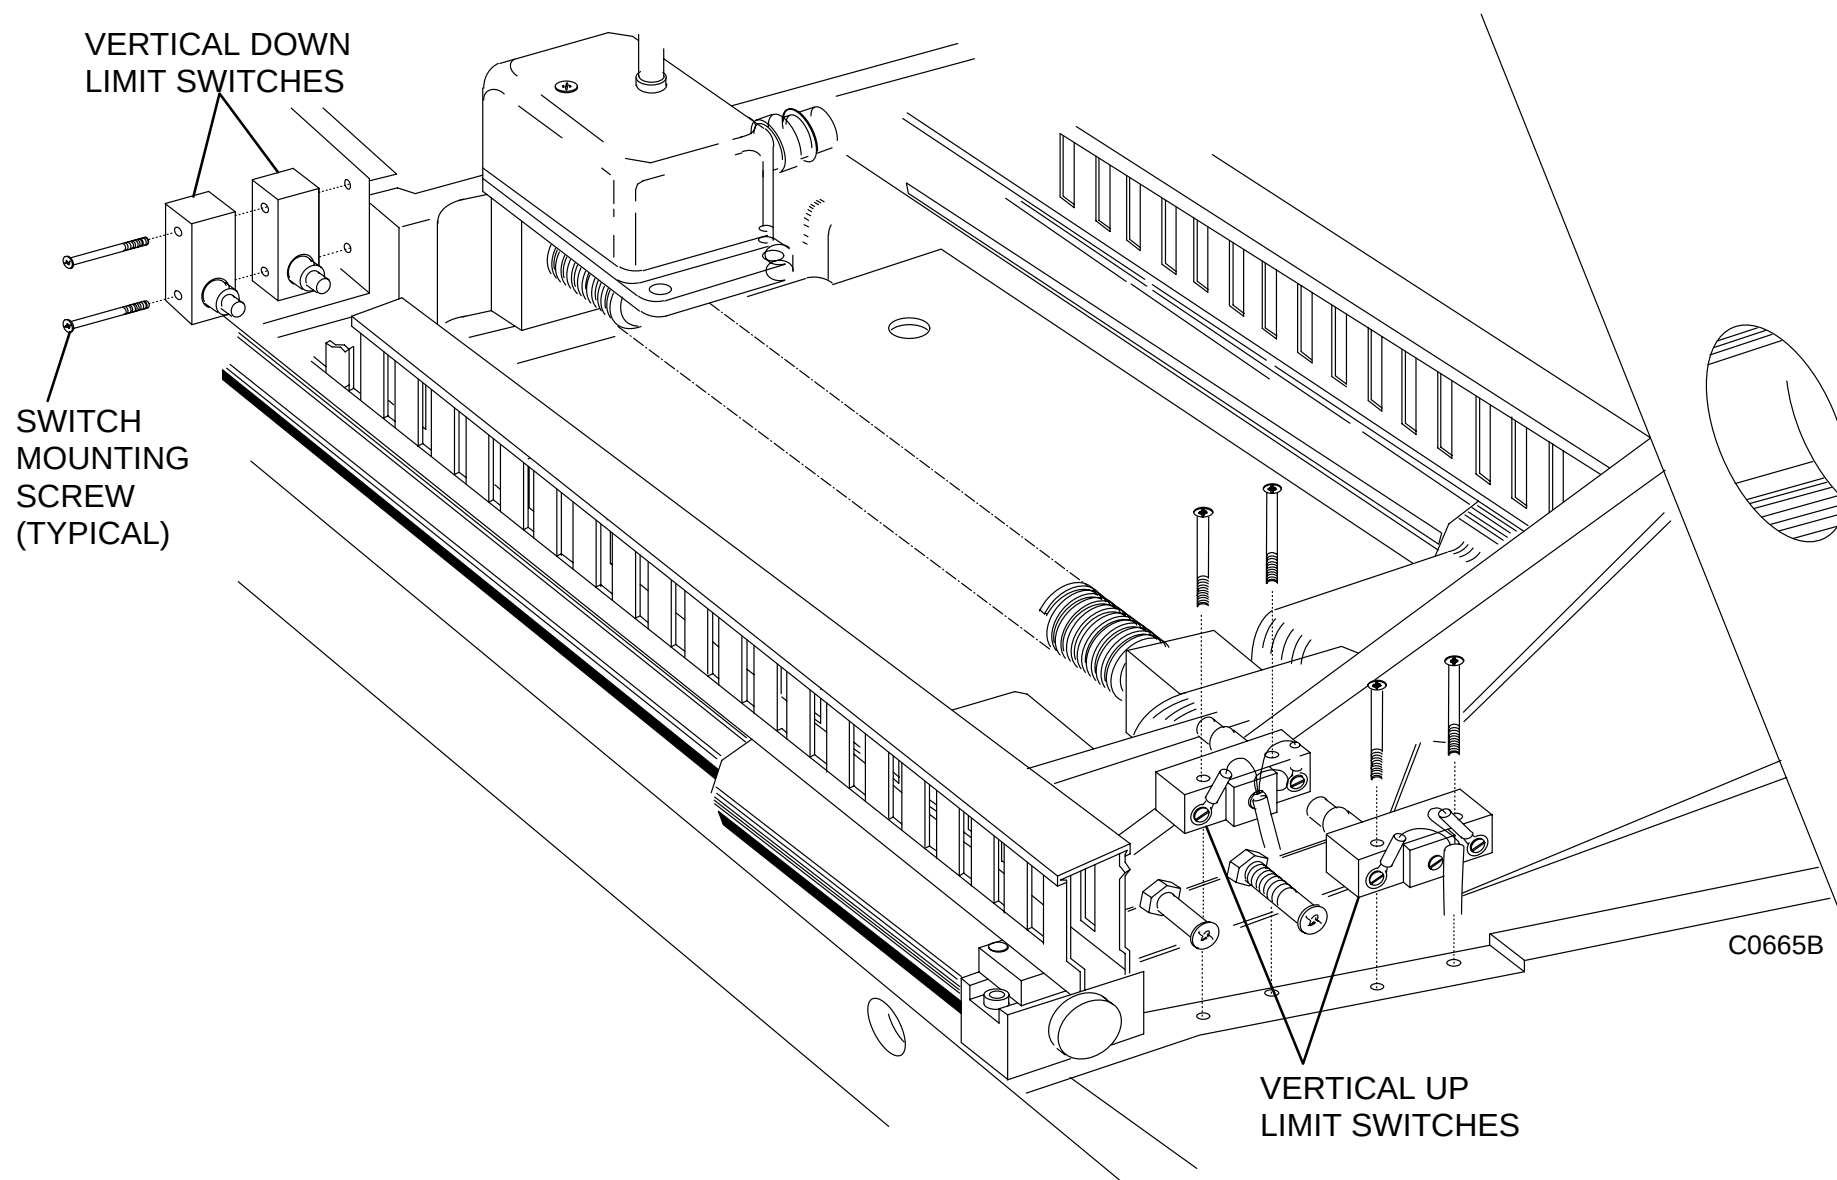

FIGURE 84 VERTICAL LIMIT SWITCHES
6. Loosen the lock nuts on the four vertical limit switch adjustment screws. Turn the soft limit switch adjusting screws fully into the frame. Turn the hard limit adjusting screws several turns into the frame. Refer to Figure 84.
8. Lower the Patient Support with the Gantry control panel switches until the distance between the carriage and either stop block (whichever is closest) is 1/16 in. Refer to Figure 84.